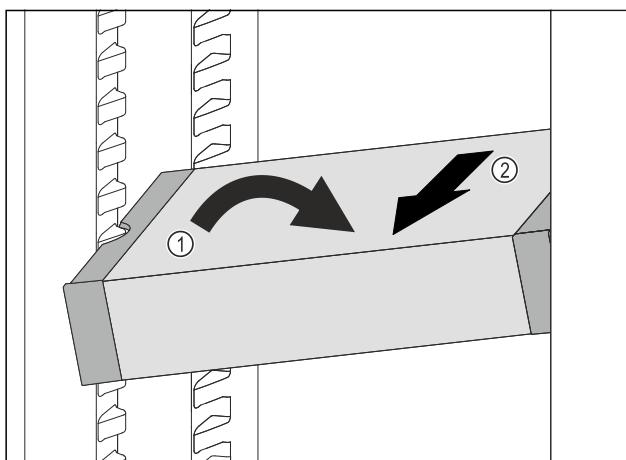

Fig. 104
- ▶ Set VarioSafe in refrigerator compartment at an angle. Fig. 104 (1)
- ▶ Take VarioSafe out to the front. Fig. 104 (2)